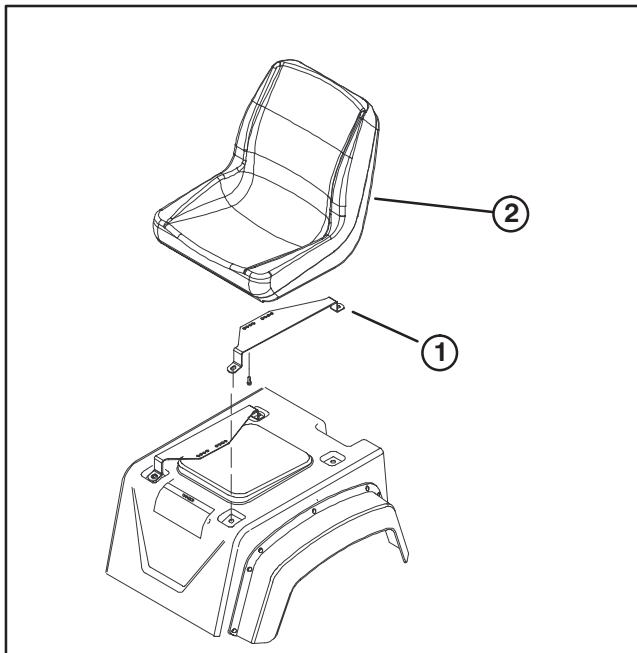

Figure 10
20. Mount a new seat bracket to each seat with capscrews removed (Fig. 10).
21. Secure seat brackets to vehicle body with capscrews (4 for each seat) previously removed (Fig. 10).